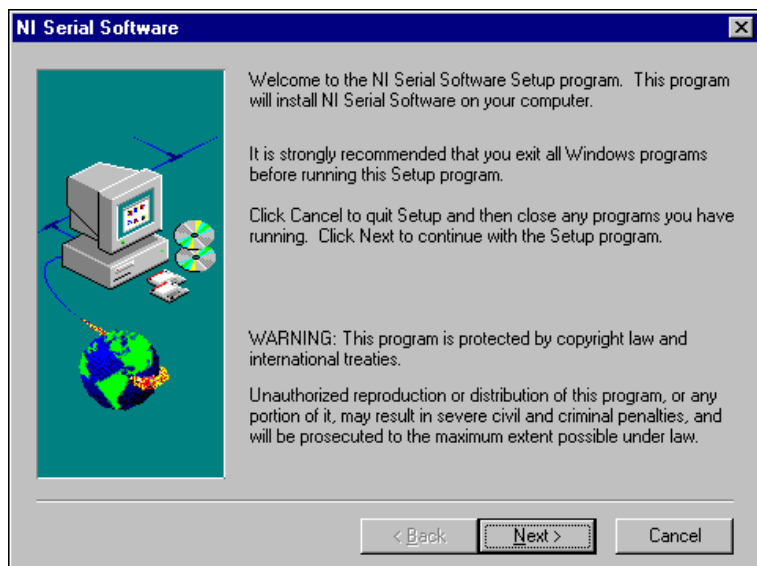

Figure 2-2. NI-Serial Setup Screen
4. When prompted, insert the *NI-Serial Software for Windows 2000/NT/Me/9x* CD, and click on the **Next** button to proceed. The software installation wizard begins with the screen shown in Figure 2-2.